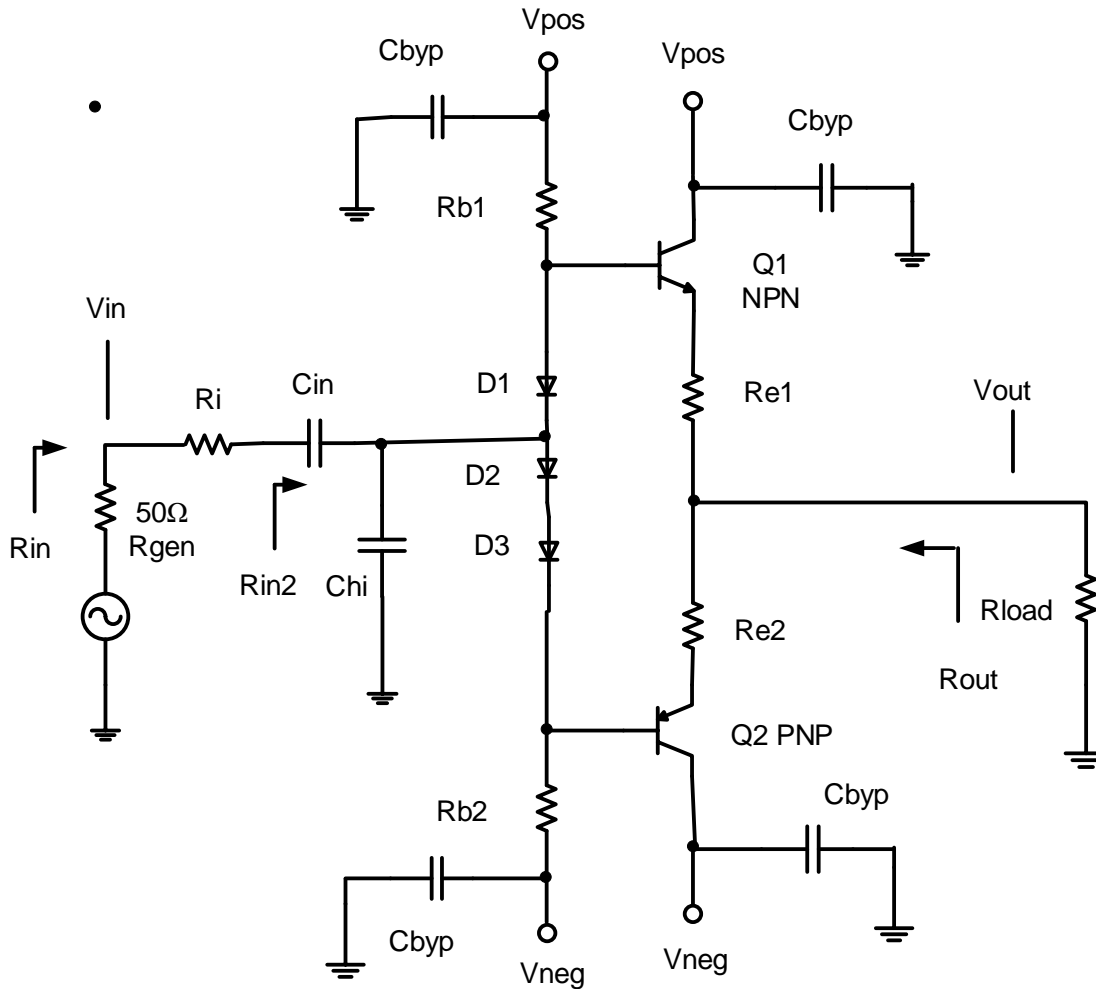

Figure 2. Class-AB Power Amplifier.
Figure 2 shows the Class-AB amplifier schematic. Each diode has an on voltage of approximately 0.53V, giving a total base voltage separation of $1.59V_{DC}$. This is enough to turn both transistors on $V_{BE} = 0.7V_{DC}$. Remember that when a large signal is applied, though, one transistor turns off and one remains on.
6.3. Construct the Class-AB amplifier shown in Figure 2. Remember that the 50Ω resistor is internal to the function generator and is not in your circuit. Record the values of the Q-point, the bias resistors and the capacitors you used in the circuit. Use the 1N4001 diodes. If your Class AB has noise on the output, bypass the collectors of the BJTs. If it still has, noise put a 220pF capacitor on the bases of each transistor to ground.